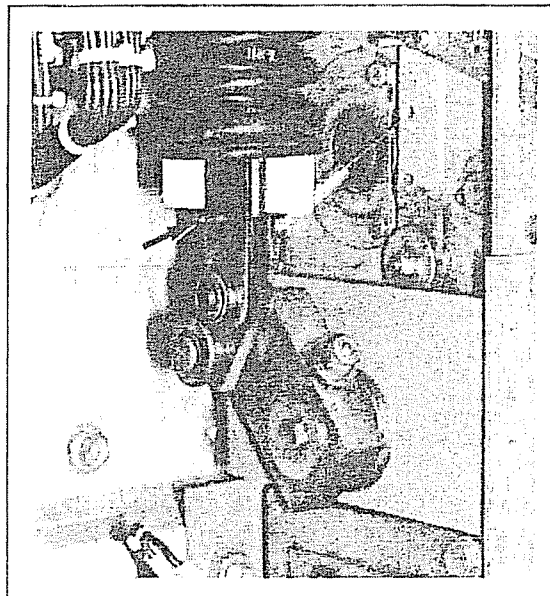

Figure 16
4. While applying force to the charging handle, insert a 7/32" diameter pin through the holes. When force is released from the handle, the pin should assume the spring pressure. This releases the pressure from the upper and lower mounting pins. If charging has gone too far, remove the pin, fully charge the springs, close and then open the breaker, and start over at step 3. Be sure to insert the pins into both sets of closing springs. See Figure 16.